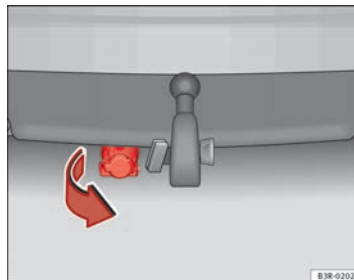

Fig. 172 Rear bumper: Pulling down the power socket
- To plug in the electrical connection for the trailer, pull down the socket below the bumper ⇒ Fig. 172.